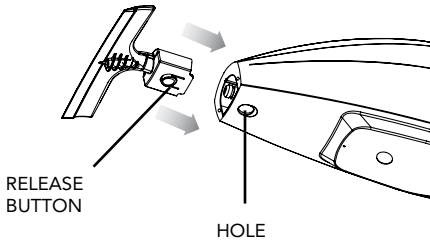

FIGURE 6
1. Align Squeegee with Steam Nozzle as shown (FIGURE 6).